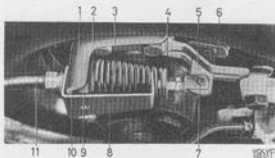

Fig. 5-81. Installing spring tool
3. Check that the brake pads are not stuck to the brake disc. To prevent the lever when adjusting from influencing the shoes and thus give misleading results, the spring tension acting on the lever should be reduced. This can be done by fitting holder 2742 (Fig. 5-81) or by disconnecting the cable from the lever.
5. Place holder 2742 so that the return spring is held in position according to Fig. 5-81. Bend up the lock and remove the lock pin so that the cable releases from the lever.
2. Fit on new rubber cable guides for the cable suspension. Place the cable in position in the rear attachment and tighten the nut. Fit the washers and return spring. Compress the spring with the help of the holder tool, see Fig. 5-81. Oil the lock pin and fit it together with the cable on the lever. Fit the attachment and rubber cable guide on the frame member.